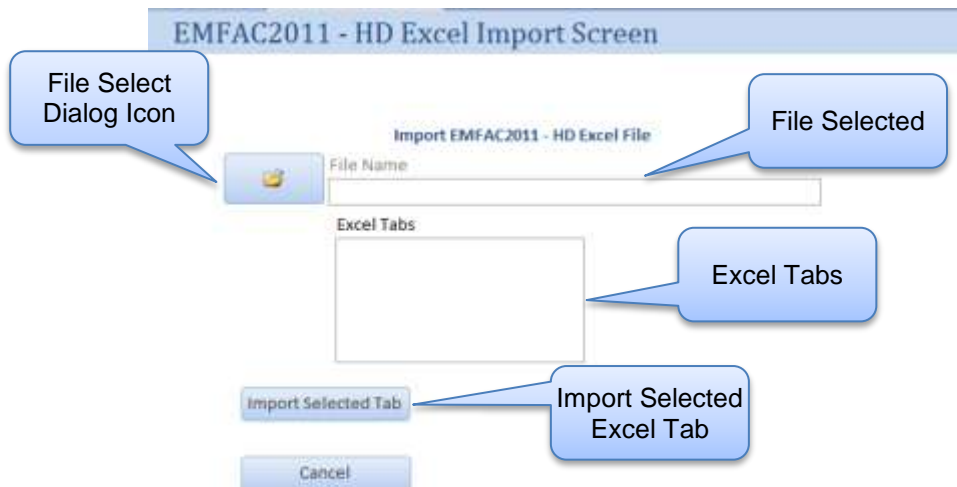

Figure 5-12 Import CARB's HD File
- From the Main Menu click the “Import EMFAC – HD File” button. The screen should now look like Figure 5-12.